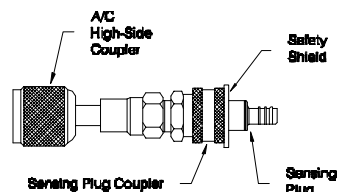

Figure 2: R12 Test Rig
**R12 Test Rig:** Figure 2. Provides connection of sensing plug to the high side or liquid service port of R12 based A/C systems.